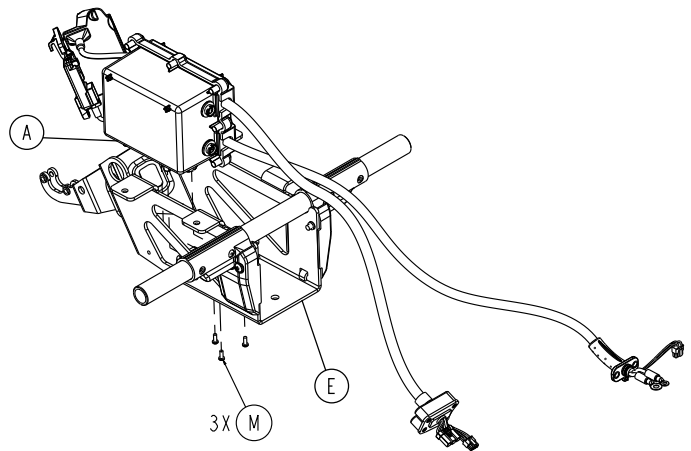

Figure 47 – Remove the HBC enclosure assembly screws
6. Using a T20 Torx driver, remove the three pan head tapping screws (M) that secure the HBC enclosure assembly (A) to the birdcage (E) (Figure 47). Save the screws.